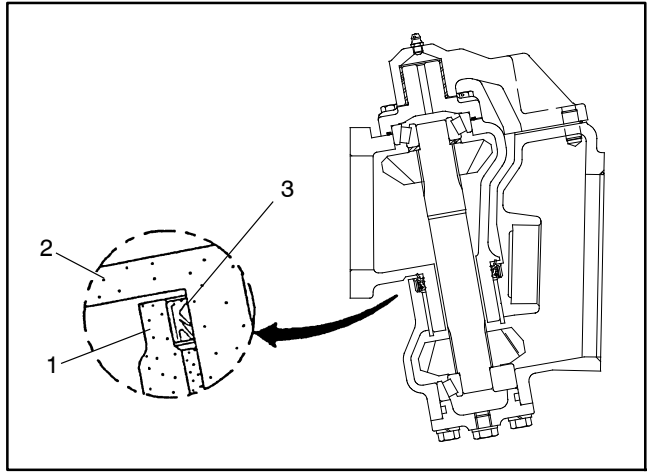

Figure 25
1. Coat new shaft seal with grease and install in axle case as shown (Fig. 25).